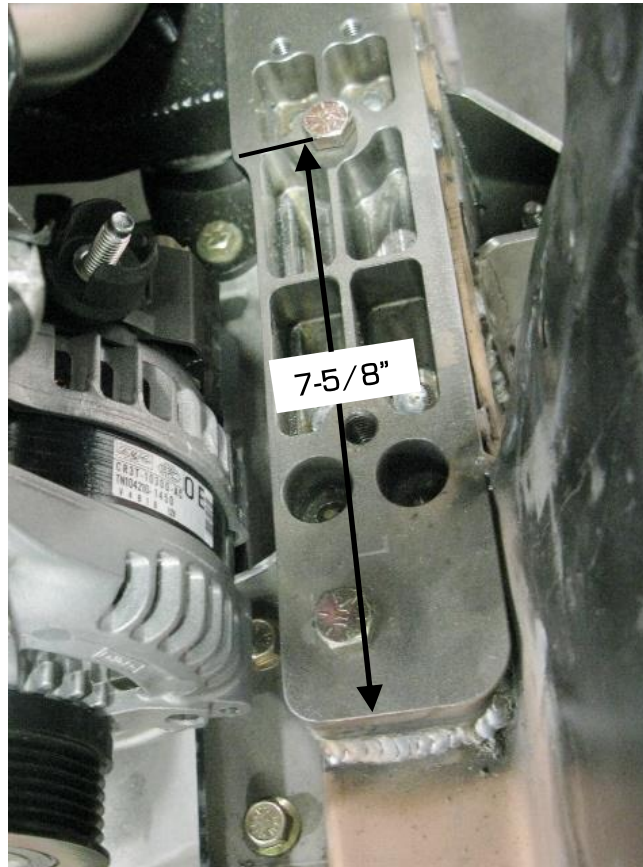

Figure 1 - Modify Framerail Adapter
1. Before the alternator can be installed, the steel framerail mounting adapter on the Aluma-Frame front suspension must be modified. Remove the 1/4" flange on the top side of the adapter measuring 7-5/8" back from the front edge so that it is flush with the base of the steel adapter (Figure 1).